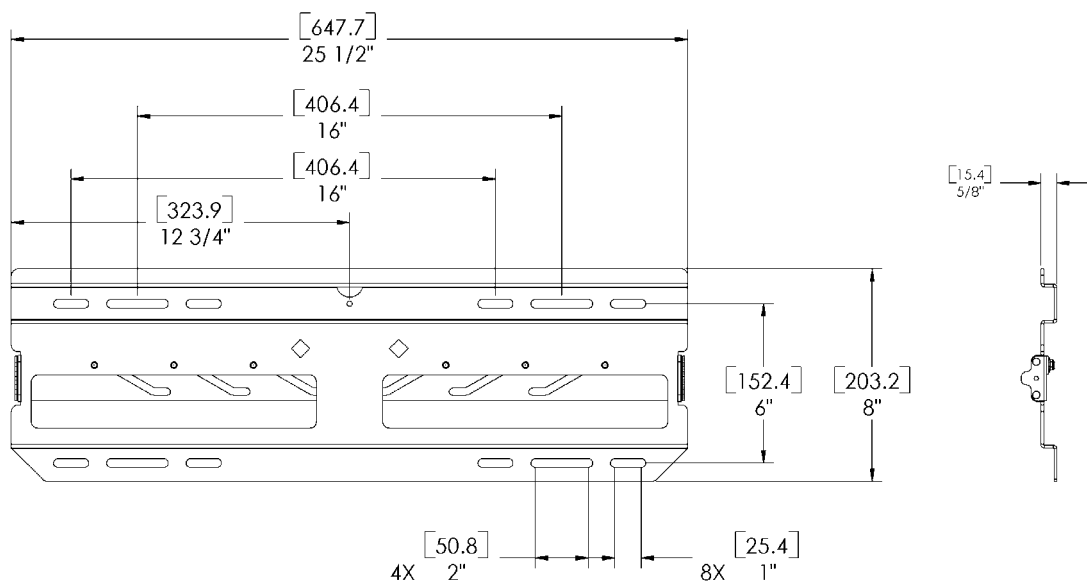

Figure 3. Lag Bolt Installation
1. Determine a suitable mounting location and lift the wall plate (10) into place (refer to "PARTS LIST" on page 3 and Figure 3).
3. Level the wall plate (10) and drill pilot holes for anchoring the wall plate. If drilling into wood studs, use a 15/64" drill bit.
4. Using four 5/16" lag bolts (80) and 5/16" washers (90), install the wall plate on the wall.